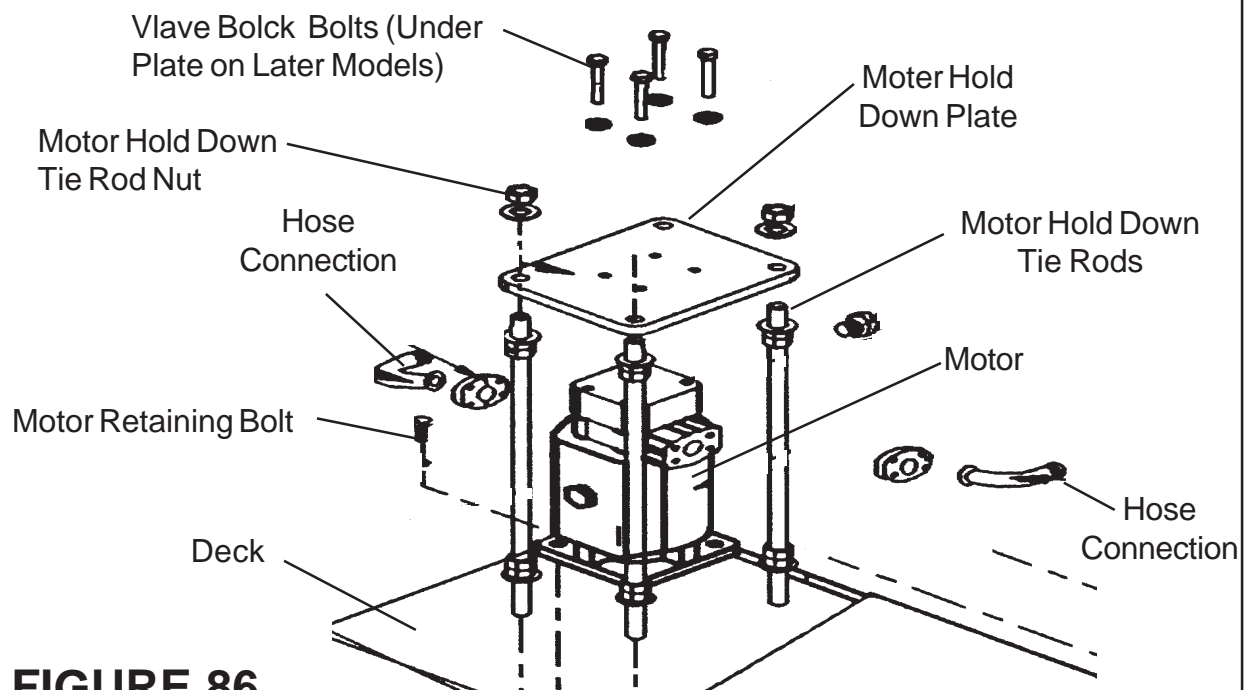

**FIGURE 85**
8. Remove Blade Bar Assembly. Use Caution the Blade Bar is very heavy Do Not remove the retaining bolts till it is secure to where it will not fall. An easy way to support Blade Bar when removing it is to only remove 2 of the 4 retaining bolts. Get 2 long bolts with same size and threads but longer than what was removed, cut the heads off of these 2 longer bolts and screw them in where you removed the 2 retaining bolts. This will support Blade carrier while you remove the other 2 bolts, this allows the Blade carrier to slide off. The four Blade Bar Retaining Bolts are Torqued to 400 ft. lbs. and are tight. It may be required to hold Blade Bar when removing them, This can be done by connecting a Chain to Blade Bar and securing it to Deck. Make Note of the length of the four Blade Bar Retaining Bolts in center Blade Bar (See Figure 85), Never put Bolts back in that are longer or Shorter they will damage Spindle Shaft.
8. Install Blade Bar Carrier, As Bar Blade Carrier was only removed and not dis-assembled it should only be a matter of bolting the Assembly on and Torqueing it down? If Bar Blade Carrier was Dis-Assembled it will have to be assembled and components Torqued as specified, See Figure 85 on previous Pages. Blade Bar Assembly Bolts MUST be torqued to 2000 ft. lbs., There are four of these Bolts, 2 long and 2 short, They MUST be torqued BEFORE Blade Bar is bolted to Spindle. The Blade Bolts must be torqued to 400 ft. lbs. and Roll Pin Installed. The Blade Bar Retaining Bolts (Socket Head Bolts) and lock washer must be installed, These will torque to 400 ft. lbs.